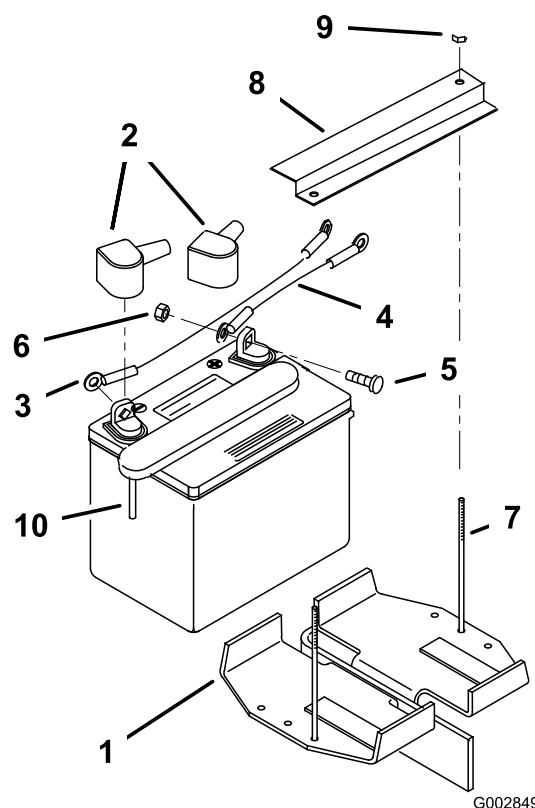

Figure 28
3. Lift the black rubber cover on the negative cable. Disconnect the negative battery cable from the negative (-) battery terminal (Figure 28).
4. Slide the red terminal boot off the positive (red) battery terminal. Then remove the positive (red) battery cable (Figure 28).
5. Remove the battery clamp and remove the battery (Figure 28).
1. Place the battery onto the machine (Figure 28).
3. First, install the positive (red) battery cable to positive (+) battery terminal with a nut, washer and bolt (Figure 28). Slide the rubber cover over the post.
4. Then install the negative battery cable and ground wire to the negative (-) battery terminal with a nut, washer and bolt (Figure 28). Slide the rubber cover over the post.